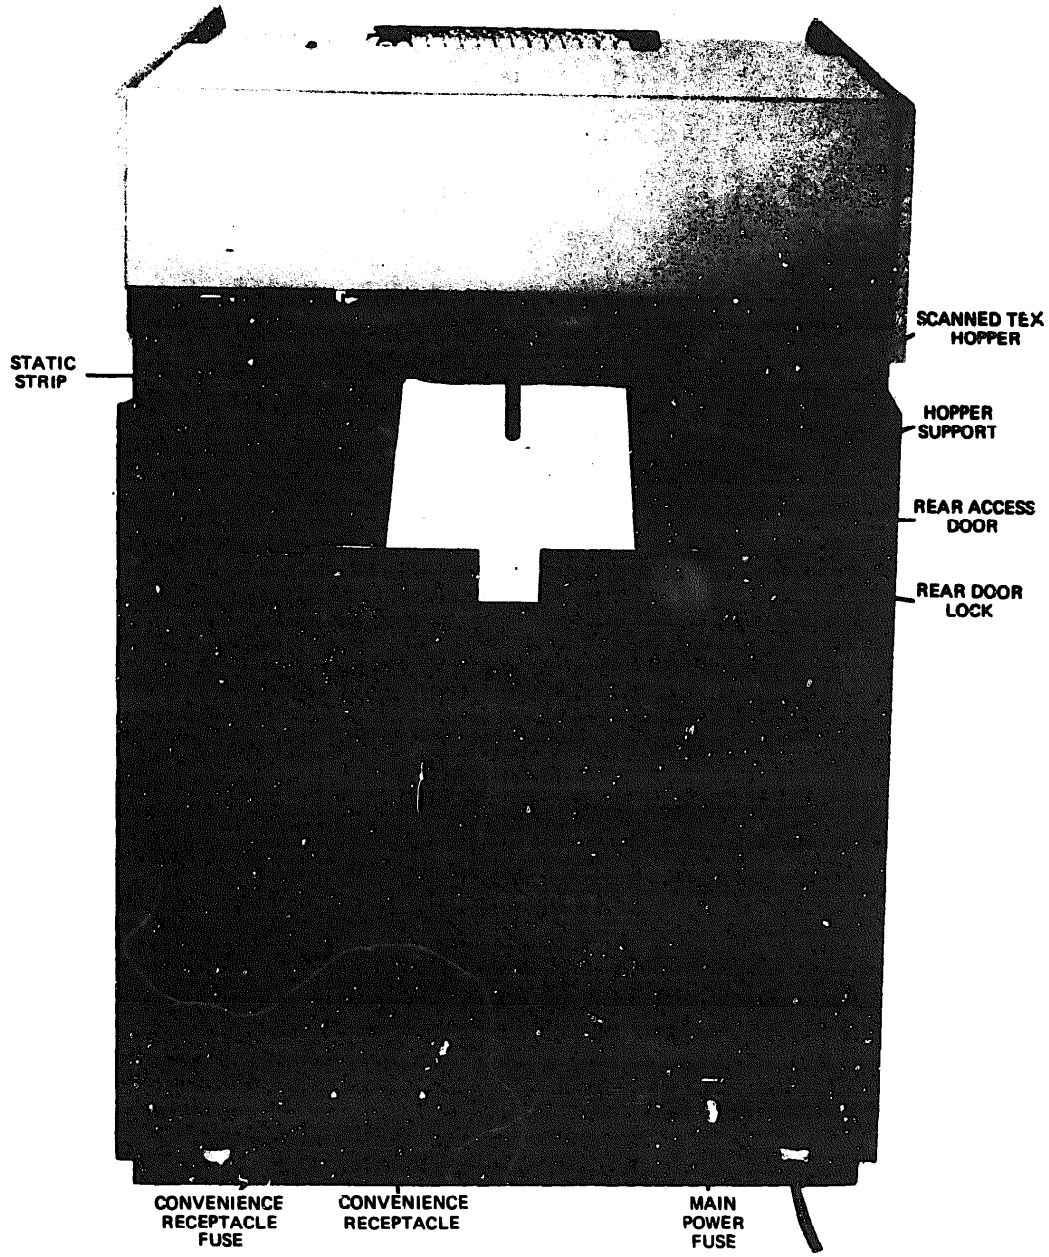

Figure 3-1. ALPHA Rear View
(1) Disconnect main power cord.
(2) Open rear access door (Fig. 3-1) to expose main wire wrap assembly.
(3) Loosen the knurled knob and swing out the main wire wrap assembly; this will expose the rear of the power supply.
(4) Carefully remove and clean each board if required. Use a soft brush or a gentle stream of clean dry compressed air to remove any dust or dirt and a contact cleaner for the electrical contacts.
(5) Blow out and vacuum the rear of the power supply.
(6) Close and secure main wire wrap assembly and rear access panel.
(7) Remove the front access panel by lifting it from the bottom straight up approximately 1/2 inch.
(8) Loosen the knurled knob and swing out the hinged panel; this will expose the external memory board.
(9) Blow out and vacuum the front portion of the power supply.
(10) Upon completion, secure the hinged panel and front access panel. Do not apply excess pressure on the panel as the top screws could break.
- a. **Open the rear door of the ALPHA.(Fig. 3-1).**
- (1) **Entire lower assembly including power supply.**
- (2) **Exterior only of the external memory and interface card.**